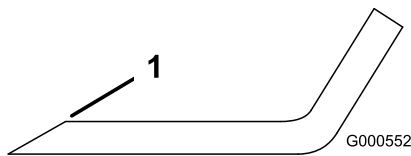

Figure 64
- Use a file to sharpen the cutting edge at both ends of the blade (Figure 64).
**Note:** If the blade is not balanced, file some metal off the end of the sail area only (Figure 64).